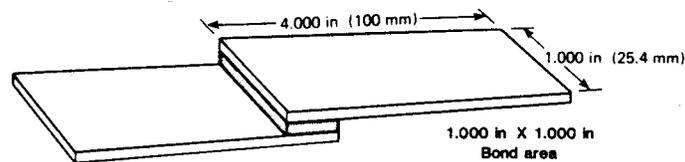

FIGURE 1—
- 4.3 Joint Geometry**—Joint geometry will be as shown in Figure 1. Joint geometry will be controlled by appropriate fixturing using glass beads or other suitable means to control a 0.76 mm (0.030 in) adhesive glueline thickness. The amount of glass beads in the glueline will be the minimum number needed to hold glueline thickness. Fixturing pressure will be allowed.